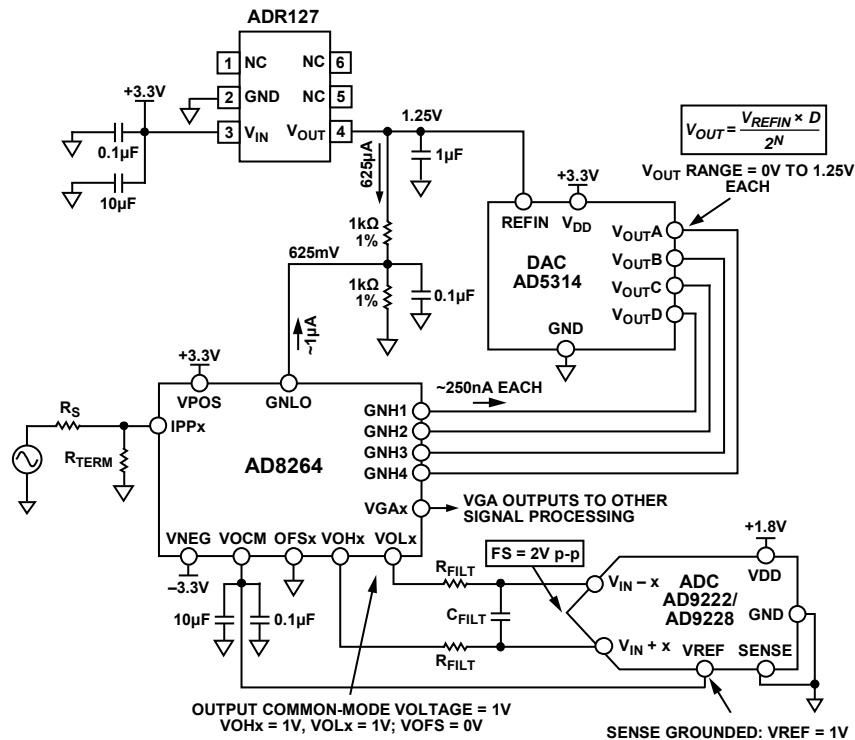
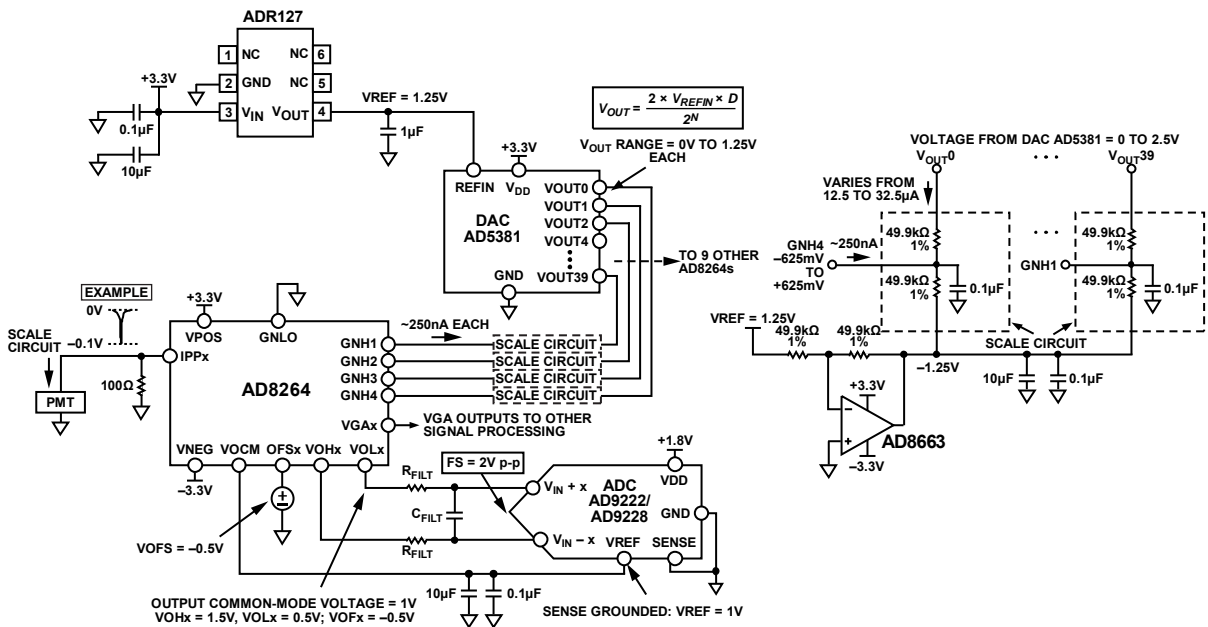

Figure 112. Application Concept of the AD8264 with the AD5314 10-Bit DAC and the AD9222/AD9228 12-Bit ADC
Figure 113. Concept Application of AD8264 with 40-Channel AD5381 12-Bit, 3 V DAC and AD9222/AD9228 12-Bit ADC
The AD8264 is particularly well suited for use in the analog front end of medical PET imaging systems. Figure 112 shows how the AD8264 may be used with the AD5314 (a 4-channel, 10-bit DAC) and the AD9222/AD9228 (an octal or quad, 12-bit ADC, respectively). The DAC sets the gain of the AD8264. Note that the full gain span of 24 dB is achieved with this setup because the gain control input range of the AD8264 is very close to 1.25 V. The GNLO pin must offset by $1.25/2 = 625$ mV because the gain control input is bipolar around the voltage applied at GNLO. This is done with two 1 k Ω , 1% resistors. The approximately 1 μ A of bias current flowing from the GNLO pin does not contribute a significant error because the basic gain error of the AD8264 is the limiting factor.
Figure 112 also includes the DAC output equation, which indicates that the output can vary between 0 V and $V_{REF} = 1.25$ V.
The single-ended-to-differential amplifier of the AD8264 amplifies the VGA output signal by 6 dB and can provide the required dc bias of the AD9222/AD9228, as shown in Figure 112. The ADC is connected with the default internal reference because the SENSE pin is grounded. With this connection, the AD9222/AD9228 VREF pin is an output that provides 1 V; this is then connected to the VOXM input of the AD8264, which sets the output common-mode voltage of the VOHx and VOLx pins to 1 V. This voltage is very close to the recommended optimal value of $V_{DD}/2 = 0.9$ V. With this configuration, the ADC inputs are set to a full-scale (FS) of 2 V p-p.
The dc connected concept example in Figure 113 is an application with the 40-channel AD5381, 3 V, 12-bit DAC. The main difference between this example and Figure 112 is that, for the same ADR127 1.25 V reference, the full-scale output of the DAC is from 0 V to $2 \times V_{REFIN} = 2.5$ V. Two options for gain control include the following:
- Use the same circuit as in Figure 112 but use only half the DAC output voltage from 0 V to 1.25 V. This is the simplest solution, requiring the fewest extra components. Note that the overall gain resolution increases by one bit to 11 bits over the 10-bit AD5314.
- Ground GNLO and scale the DAC output so that the GNHx inputs vary from -0.652 V to $+0.625$ V. Figure 113 shows a possible circuit implementation using a divider between the DAC output and a -1.25 V reference.
Figure 113 shows how the AD8264 is connected in a PET application. The PMT generates a negative-going current pulse that results in a voltage pulse at the preamplifier input and a differential output pulse on VOLx and VOHx.
A convenient method of verifying and customizing the signal chains shown in Figure 112 or Figure 113 is by ordering the corresponding evaluation boards available on www.analog.com. The AD8264-EVALZ is a platform through which the user can quickly become familiar with the features and performance capabilities of the AD8264. See the Evaluation Board section for more information.